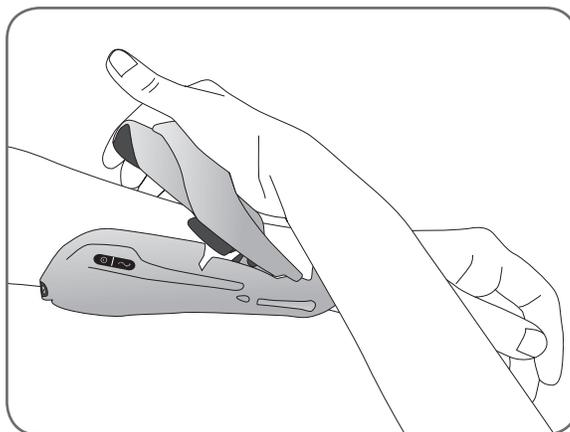

Figure 6-10: Closing the extensor wing.
5. If the Orthosis is positioned correctly, close the extensor wing. Place your hand on top of the wing arm and grasp under the Orthosis extensor wing with your fingers. Pull the extensor wing out while pushing down on the wing arm. Push until no more clicking can be heard. See Figure 6-10.